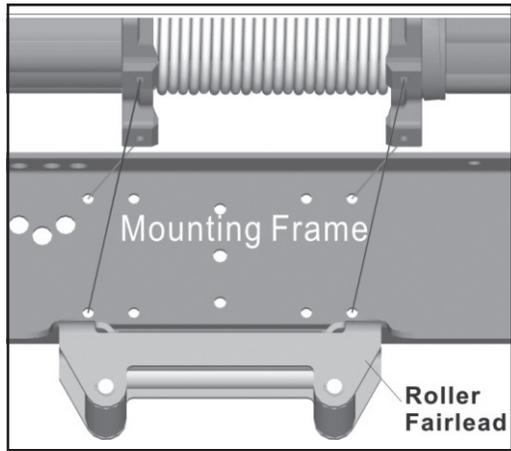

Figure 1
3. Mount Electric Winch to the Mounting Frame using supplied bolts (#36) and nuts (#38). See Figure 1